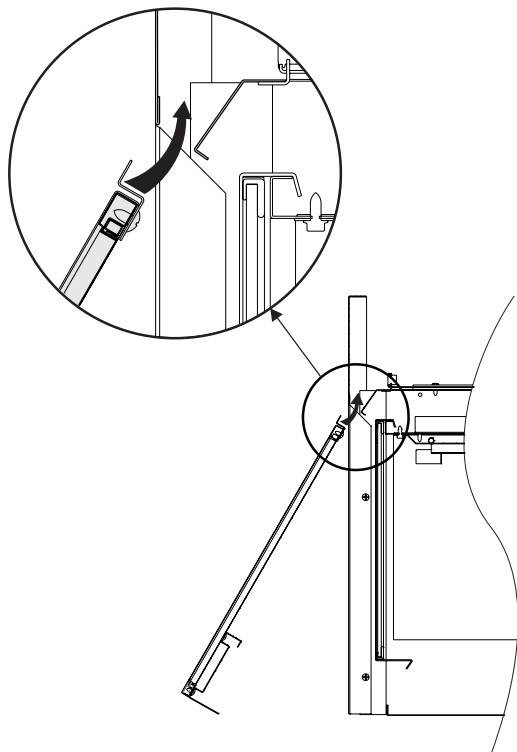

Figure 22
2. Raise the barrier just enough to allow the bottom of the barrier to swing inward to a vertical position. **See Figure 22.**